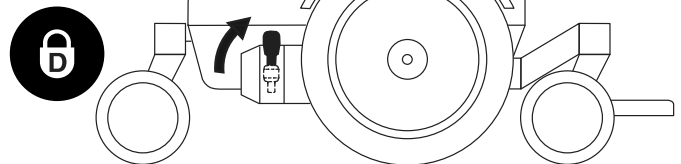

**Figure 1. Electrical Components**
Your power chair has two main assemblies: the seat assembly and the power base assembly. Typically, the seat assembly includes the armrests, seatback, and seat base. The power base assembly includes two motor/brake assemblies, two drive wheels, four caster wheels, two batteries, and wiring harnesses. See **Q6 Edge 2.0/2.0x/3 (page 4) and figure 1.**
The electrical components consist of the controller assembly, the batteries, and the motors. The batteries, motors, and controller power module (if equipped) are located on the power base assembly. The controller is located on the seat assembly. Connectivity between the controller and the motors, batteries, and the battery charger is provided by one or more wiring harnesses. See **figure 1.**
5. Plug the controller connector into the rear of the power base. **See figure 1.**